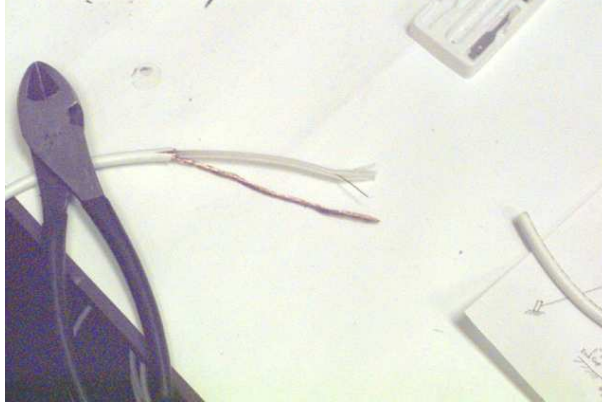

Figure 3.2c. Twist the copper shielding and expose the center conductor.
3. ○ Twist all the individual wires together to form one continuous wire (Figure 3.2c).